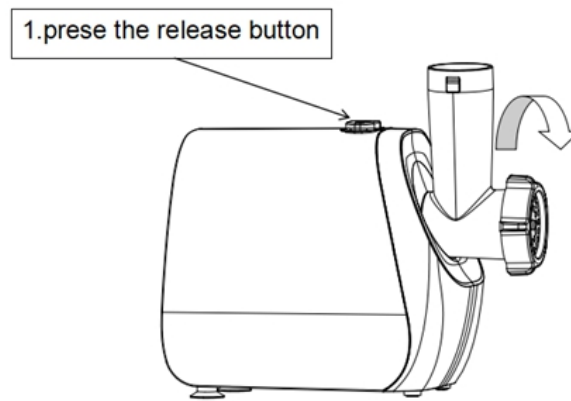

Fig. 3
8. When finish blending, unplug to the power source. Disassemble the ream meat tube assembly: press down release button properly with thumb of left hand (see arrow 1 of Fig.3), turn the ream meat tube assembly clockwise with right hand then remove them (see arrow 2 of fig.3).